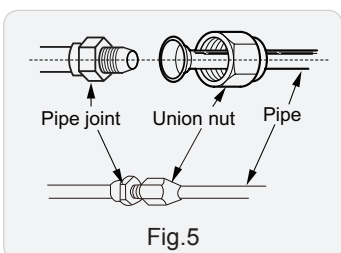
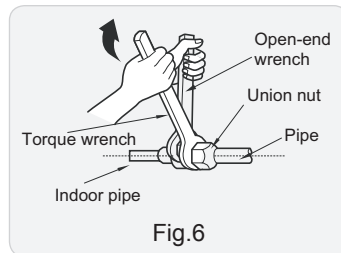

Fig.5
Fig.6
(2) Aim the pipe joint at the corresponding bellmouth. (As show in Fig.5)
(3) Pretightening the union nut with hand.
(4) Adjust the torque force by referring to the following sheet. Place the open-end wrench on the pipe joint and place the torque wrench on the union nut. Tighten the union nut with torque wrench. (As show in Fig.6)